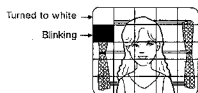

Fig. 56
- To mask other areas, move the cursor to the desired area by using the Up Switch (Λ) (10), Down Switch (V) (7), Left Switch (<) (9) or Right Switch (>) (8). The previous masked area then stops blinking and turns to white as shown in Fig. 56.